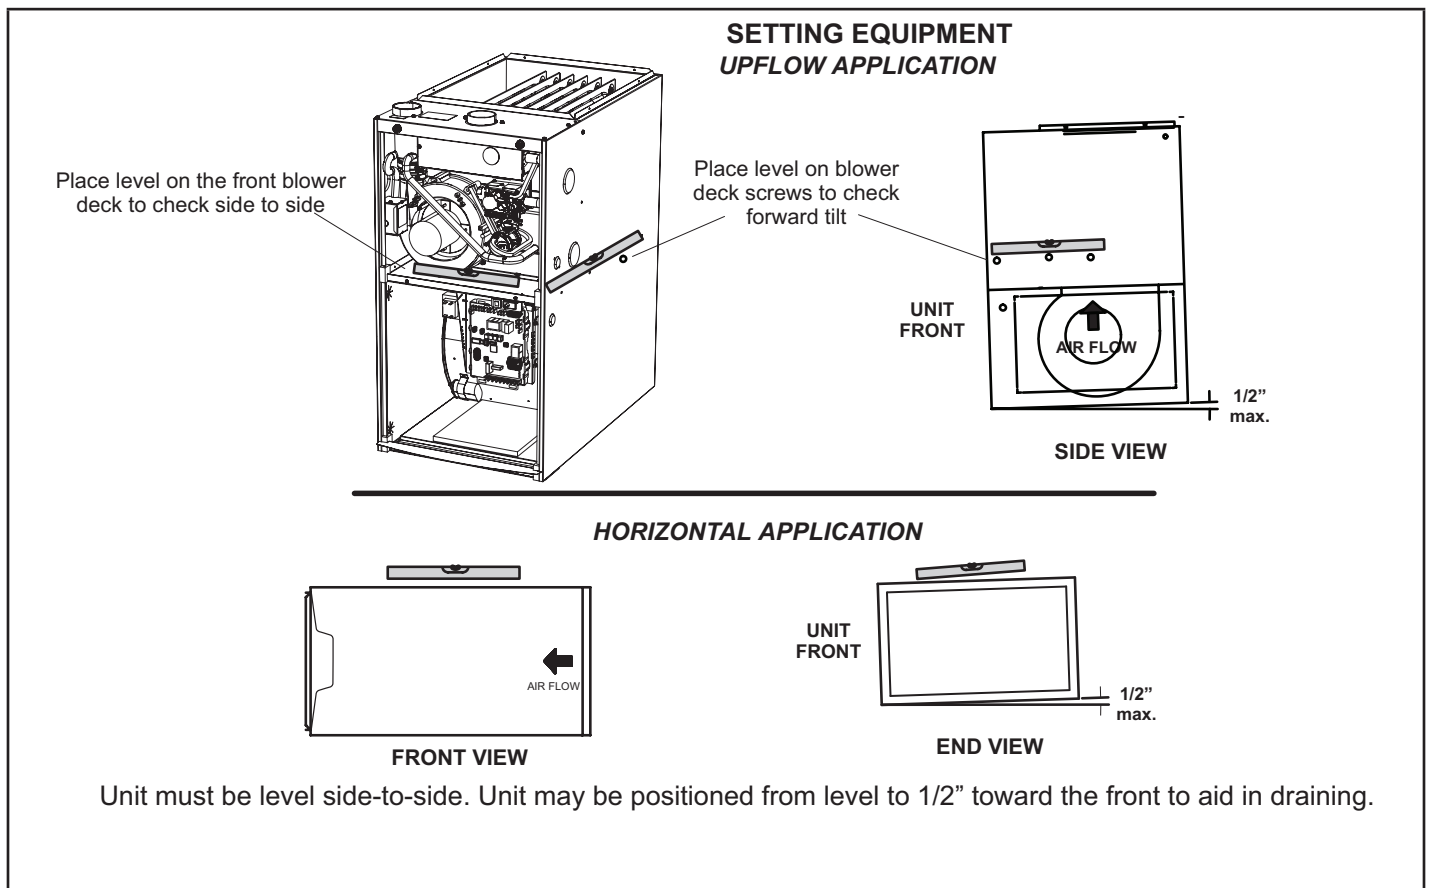
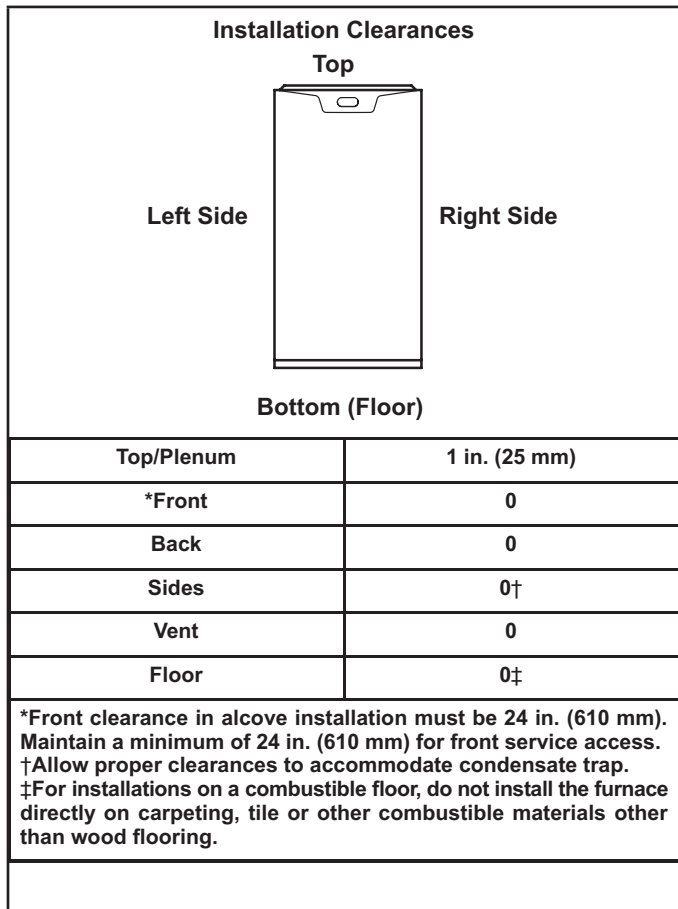
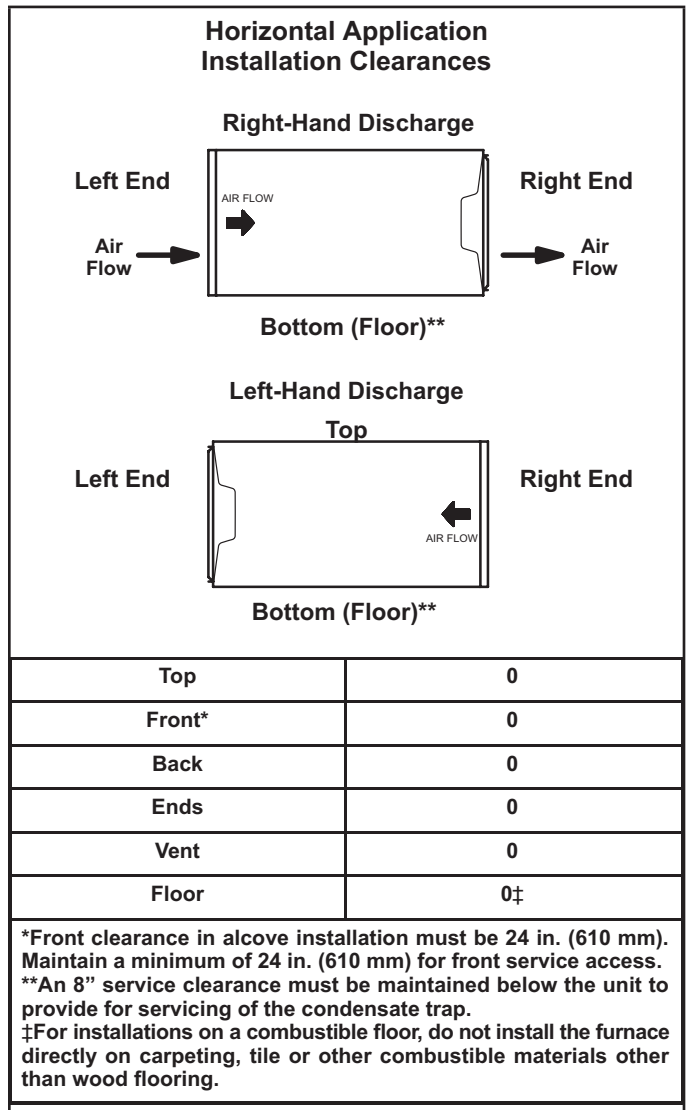

FIGURE 5
FIGURE 10
FIGURE 11
This furnace is designed for installation clearances to combustibles as listed on the unit nameplate and in the tables in FIGURE 10 and FIGURE 11. Accessibility and service clearances must take precedence over fire protection clearances.
The SLP99UHV gas furnace can be installed as shipped in the upflow position. Refer to figure 10 for clearances. Select a location that allows for the required clearances that are listed on the unit nameplate. Also consider gas supply connections, electrical supply, vent connection, condensate trap and drain connections, and installation and service clearances [24 inches (610 mm) at unit front]. **The unit must be level from side to side. Unit may be positioned from level to 1/2" toward the front to aid in draining. See FIGURE 5.**
Allow for clearances to combustible materials as indicated on the unit nameplate. Minimum clearances for closet or alcove installations are shown in FIGURE 10 and FIGURE 11.
The SLP99UHV furnace can be installed in horizontal applications with either right- or left-hand air discharge. Refer to FIGURE 11 for clearances in horizontal applications
- 1 - Select location for unit keeping in mind service and other necessary clearances. See FIGURE 11.